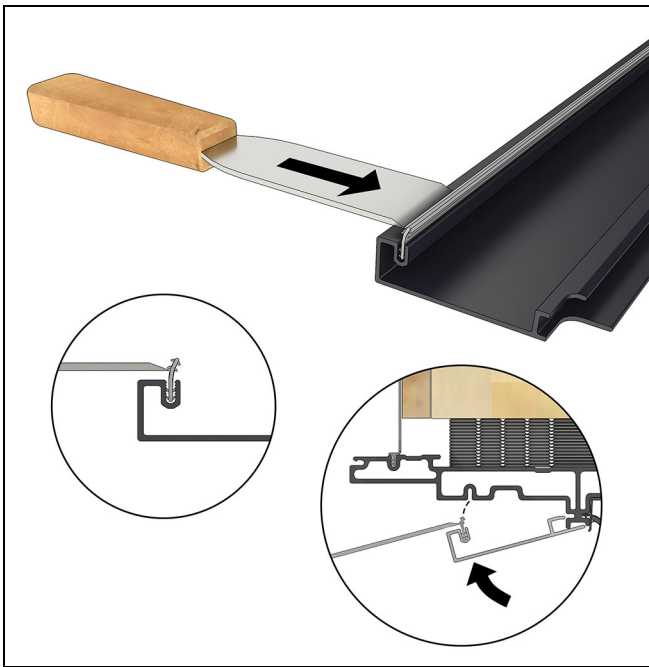

Figure 93
11. Install the exterior covers. Start at the head jamb, then sill, and then jambs. Push hooked edge of the cover into the frame then rotate to engage the barbed end into the side of the frame. If necessary, seat the cover with a rubber mallet and block of wood, taking care to hit on the edge and not on the face of the cover to avoid damage. See Figure 93 through Figure 96.